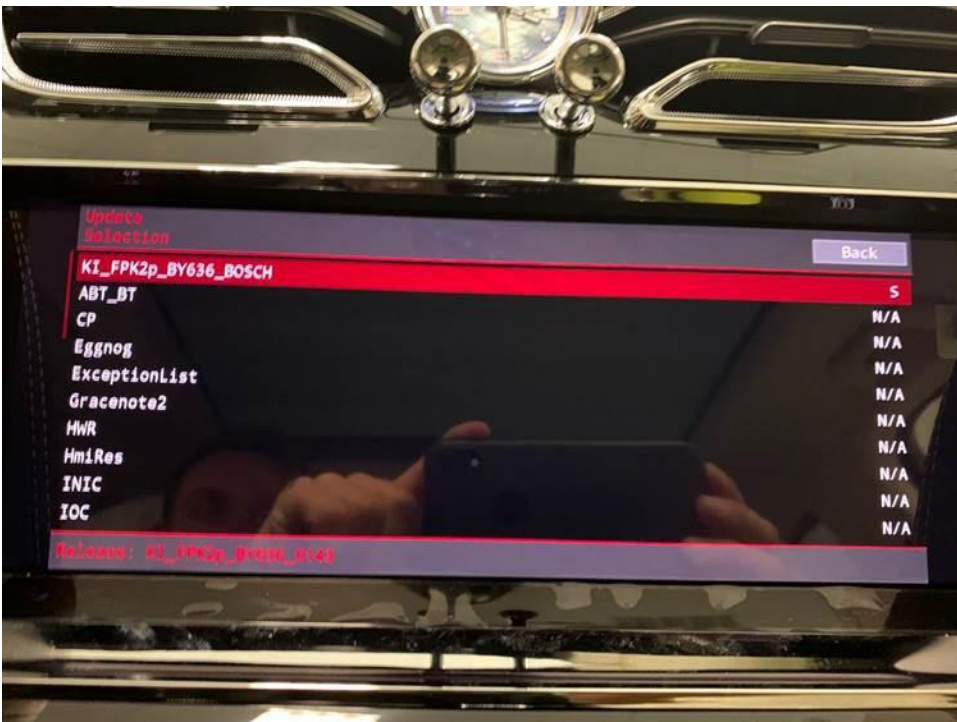
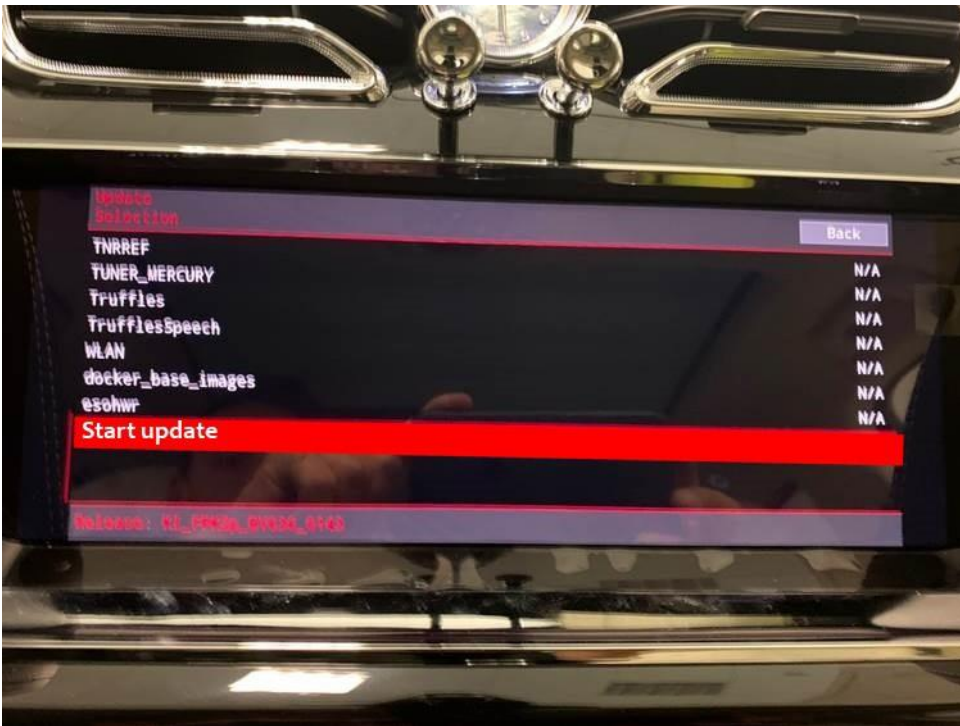

Figure 6
Figure 7
6. A summary of the proposed changes will then appear (Figure 6), scroll down and select 'Start update' (Figure 7).